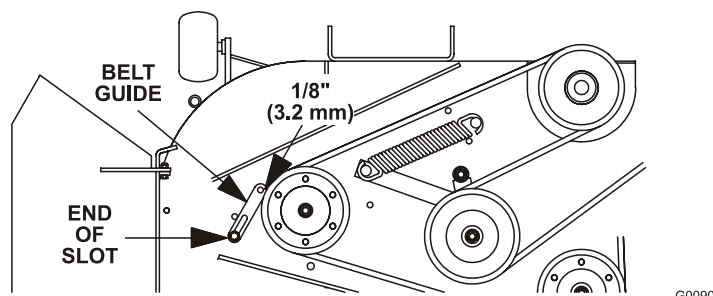

FIGURE 13
- c) Note belt guide bolted to deck near the shield support stud and right-hand pulley. Guide should be 1/8" (3.2 mm) away from the belt, with bolt-end of guide near end of slot (See Figure 13).